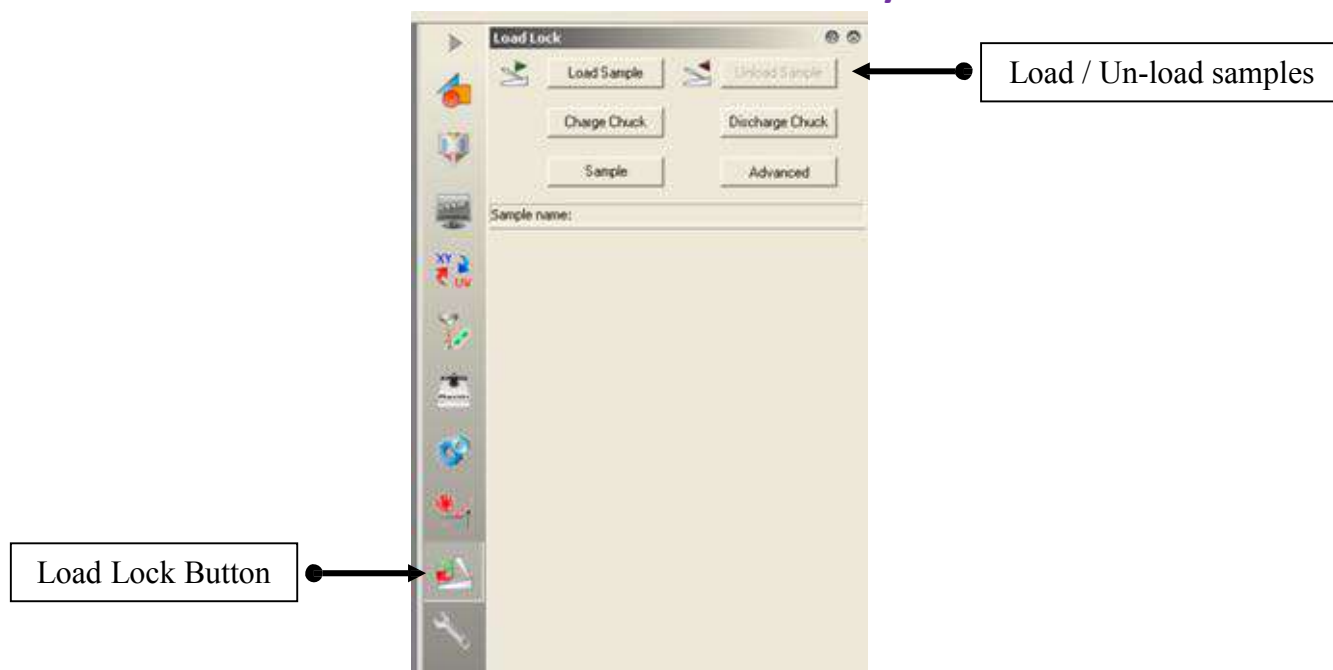

Figure 8 Loading / Un-loading samples
6. In order to begin the loading process, enable the Raith window. Click on the **Load Lock** icon followed by the **Load Sample** button in the right hand vertical panel as shown in Fig. 8. There are a number of important icons on this panel whose names can be revealed by mouse over.